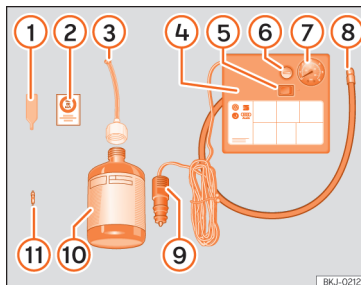

Fig. 32 Standard representation: anti-puncture kit contents.
»» **Fig. 32:**
- Unscrew the tyre valve cap and insert. Use the »» **Fig. 32** 1 tool to remove the insert. Place it on a clean surface.
- Shake the tyre sealant bottle vigorously »» **Fig. 32** 10.
- Screw the inflator tube »» **Fig. 32** 8 into the sealant bottle. The bottle's seal will break automatically.
- Remove the lid from the filling tube »» **Fig. 32** 3 and screw the open end of the tube into the tyre valve.
- Place the insert back into the tyre valve using the tool »» Fig. 32 ①.
- Screw the compressor tyre inflator tube »» Fig. 32 ⑧ into the tyre valve.
- Check that the air bleed screw is closed »» Fig. 32 ⑥.
- Insert the connector »» Fig. 32 ⑨ into the vehicle's 12-volt socket »» page 135.
- Turn the air compressor on with the ON/OFF switch »» Fig. 32 ⑤.
- Attach the sticker »» Fig. 32 ② to the instrument cluster, within the driver's visual field.
Screw the inflator tube »» Fig. 32 ⑤ again and check the pressure on the gauge ⑥.